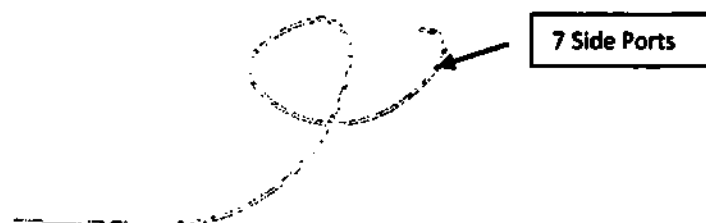

Figure 5: ENBD-6.5-LEUNG-7 Drainage Catheter
The product code for the Leung Nasal Biliary Drainage Catheter is ENBD-6.5-LEUNG-(Y) where 6.5 denotes the drainage catheter Fr size and Y denotes the number of side ports on the device, this is either 4 or 7. The ENBD-X-LEUNG-Y drainage catheters have a large alpha curve followed by a curved tip at the distal end. See Table 1 for the components that are included in the leung nasal biliary drainage catheter set. The features of the device are outline in Table 2 Figure 5 show a pictorial representation of the Leung Nasal Biliary Drainage Catheter product family.